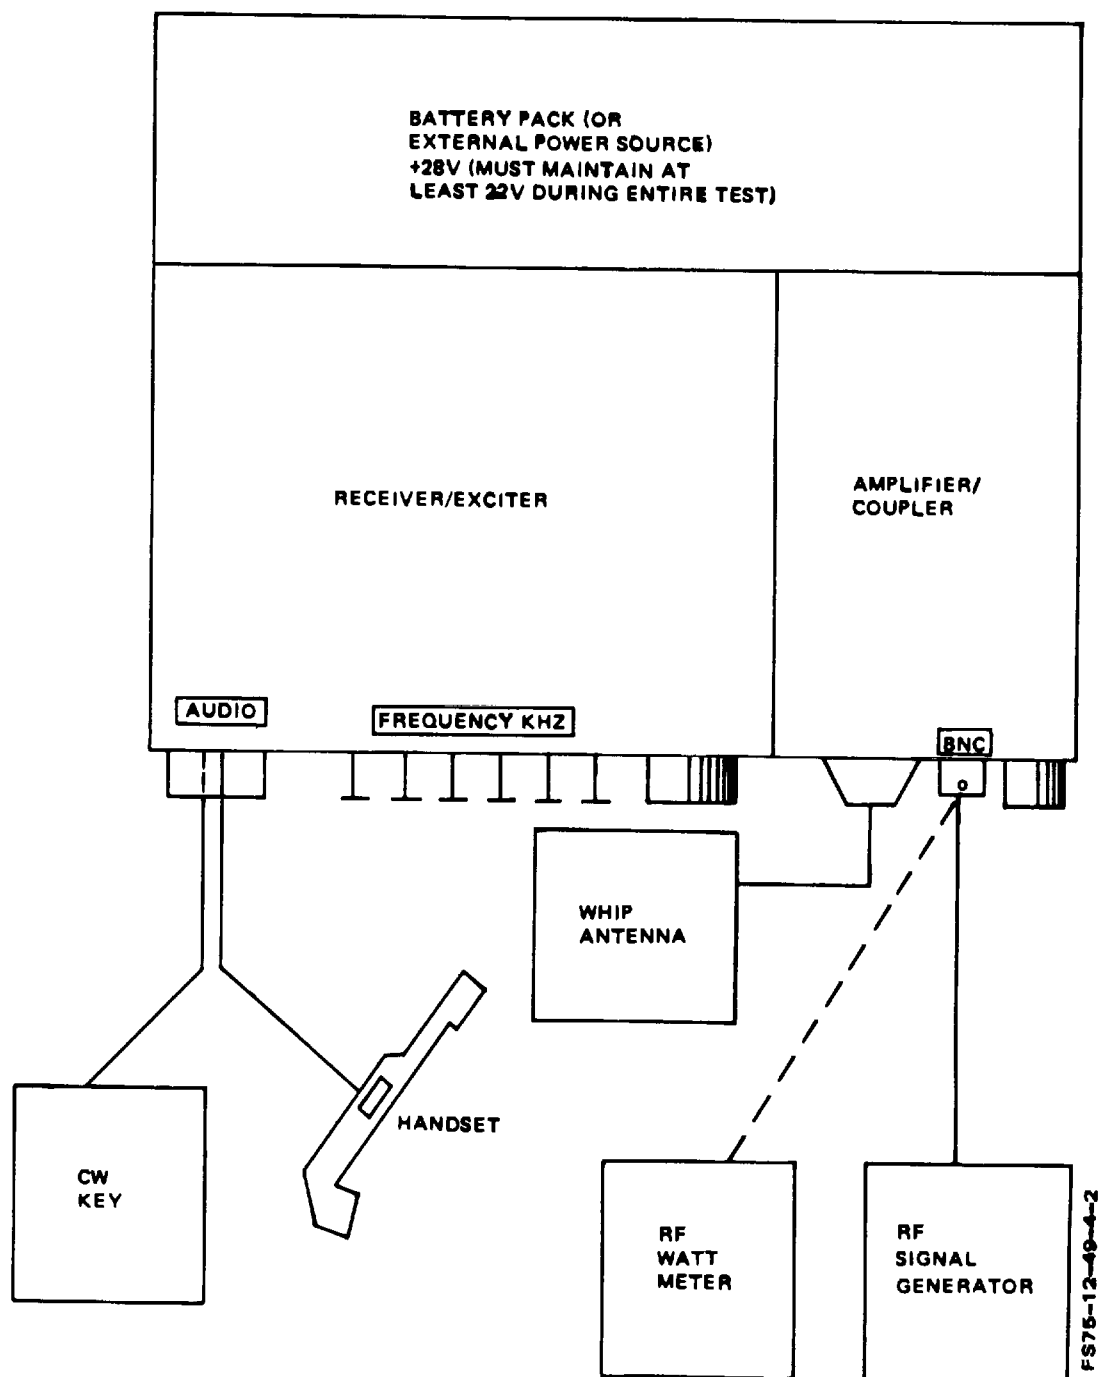

Figure 4-2. Organizational Radio Set Performance Test Setup
Quarterly checks and services consist of performing the radio set performance test contained in figure 4-2. For Air Force maintenance perform the audible tone performance test contained in figure 4-1.
**4-18.** Organizational level radio set performance test setup and test flowchart are contained in figures 4-2 and 4-3. Air Force organizational maintenance uses the audible tones performance test in figure 4-1.